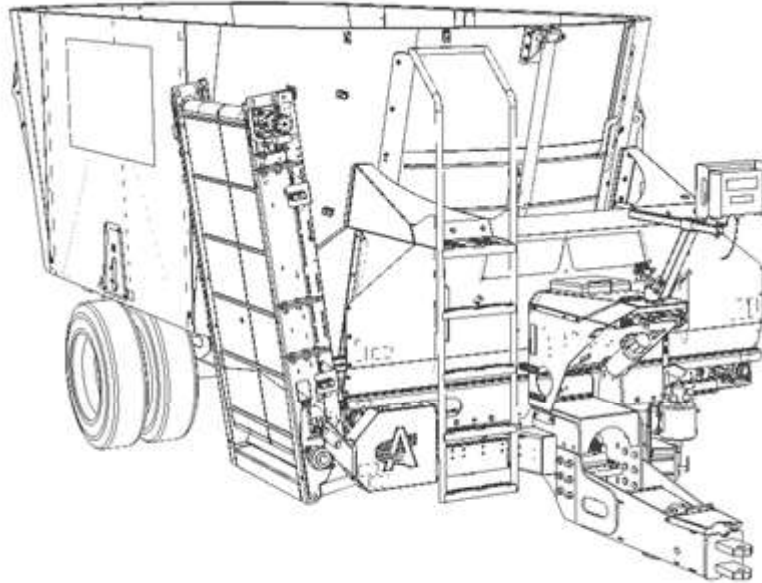

Figure 8 — Inclined Conveyor in Transport Position
- If your machine has an inclined conveyor, check that it is in transport position (Figure 8).